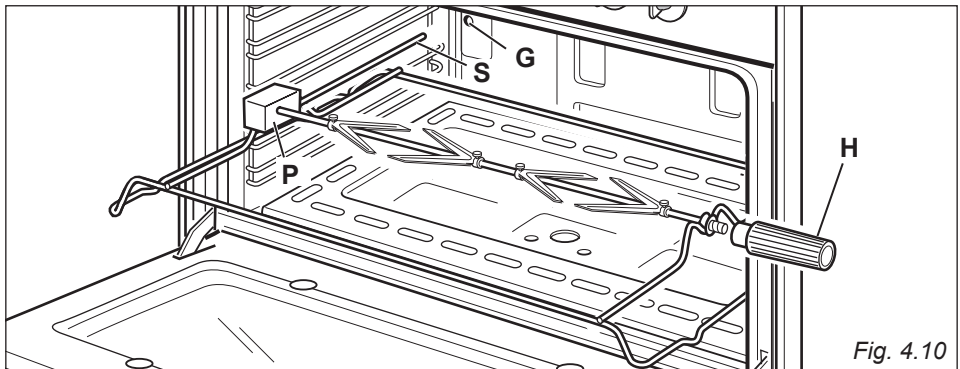

Fig. 4.10
- Insert the rod into the side gear opening "P" (fig. 4.10)